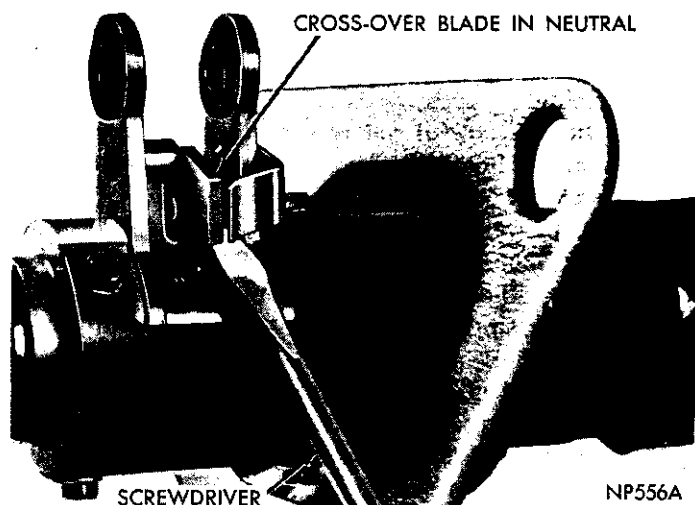

Fig. 45—Holding Crossover Blade in Neutral Position
(4) Place screwdriver or suitable tool between cross-over blade and 2nd-3rd lever at steering column so that both lever pins are engaged by cross-over blade (Fig. 45).
(5) Set 1st-Reverse lever on transmission to reverse position (rotate clockwise).
(6) Adjust 1st-reverse rod swivel by loosening clamp bolt and sliding swivel along rod so it will enter 1st-